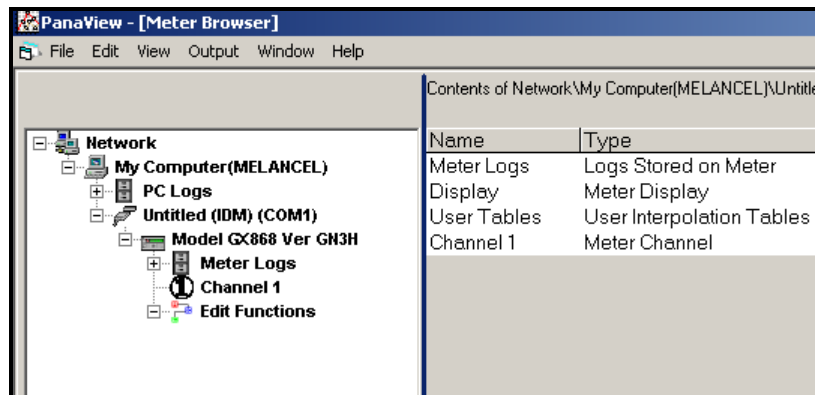

Figure 34: *New Meter Browser* with Meter Branch
3. Then expand the meter tree as shown in Figure 34.